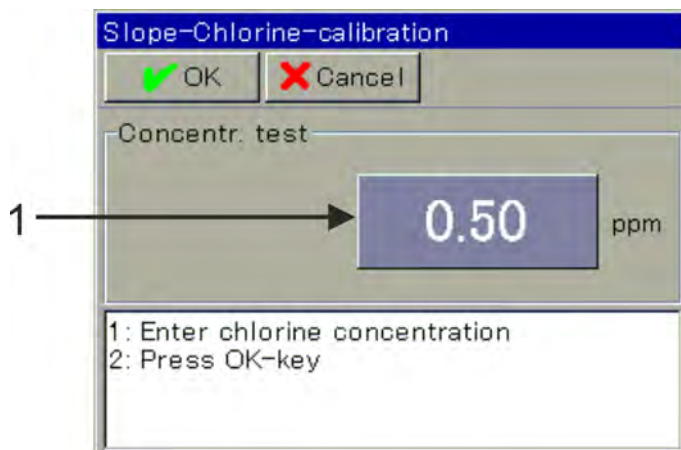

Fig. 86: To enter the chlorine concentration, tap the button (1)
4. Enter the concentration value of the test solution. Confirm with "OK". See Fig. 86 .